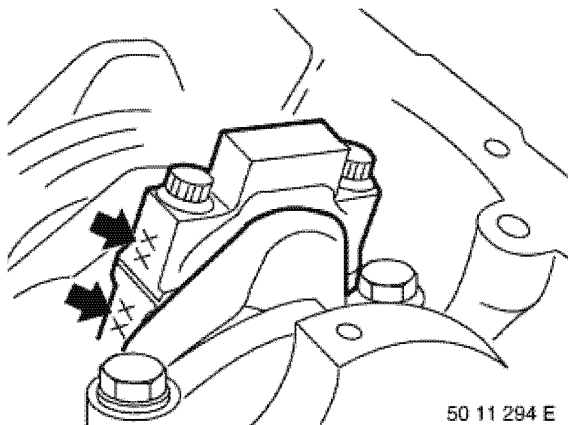

Figure 5-62
12. Install the connecting rod cap. Ensure the connecting rod and cap have the same marking number and that the marks are on the same side (Figure 5-62).